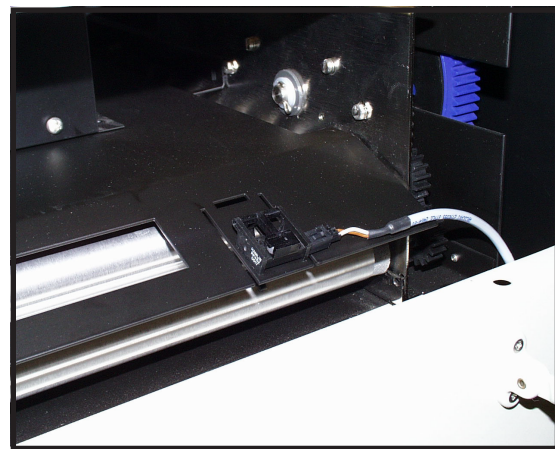

Fig. 2 Outlet sensor(s) placed on the left side
3. Mount the sensor(s) (see fig. 2). There must be an inlet and outlet sensor on the same side, right or left, both in the middle. Ex for Dolev 800: